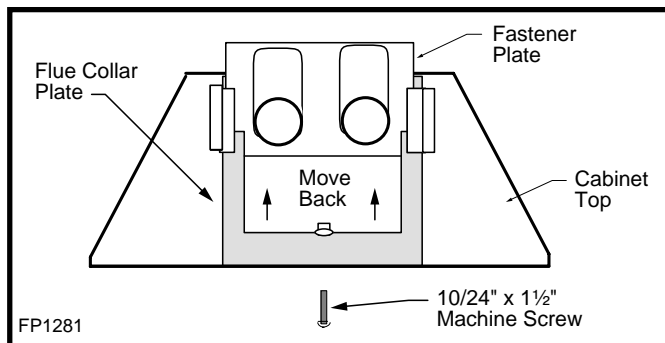

Fig. 10 Remove flue collar plate assembly.
1. Remove flue collar plate assembly. Unbolt the top fastener plate and move it to the back first before sliding the flue collar plate out from the top of the unit. (Fig. 10)